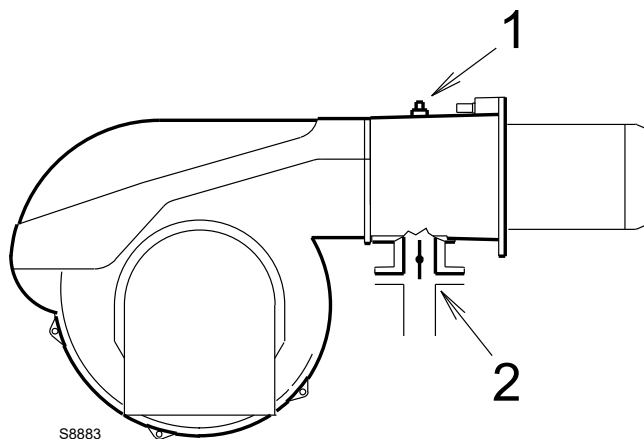

Fig. 19
Gas pressure measured at test point 1)(Fig. 19), with:
Pressure loss at gas butterfly valve 2)(Fig. 19) with maximum opening: 90°.
- subtract the combustion chamber pressure from the gas pressure measured at test point 1)(Fig. 19).
Gas pressure at test point 1) (Fig. 19) = 11.7 mbar
To calculate the required gas pressure at test point 1) (Fig. 19), set the maximum modulating output required from the burner operation:
- Read, on the right (column 1), the pressure at the test point 1) (Fig. 19).
pressure required at test point 1)(Fig. 19).